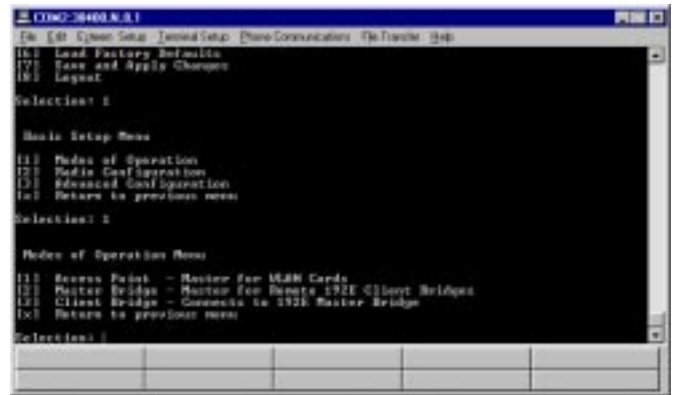

Figure 4: Access Point Configuration Menu
2. Select Modes of Operation (1<Enter>) to enter the system configuration menu (Figure 4).